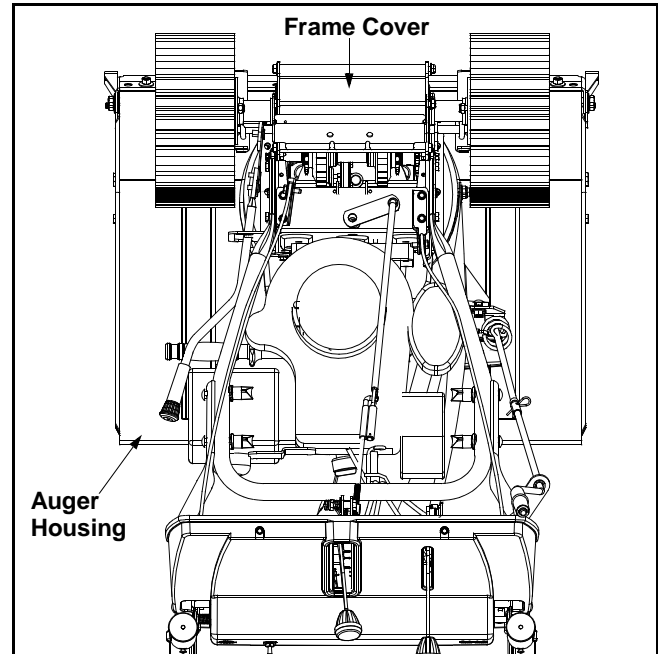

Figure 9
- Tip the snow thrower forward, allowing it to rest on the auger housing. See Figure 9.
- Tip the snow thrower up and forward so that it rests on its auger housing. Refer to Figure 9.